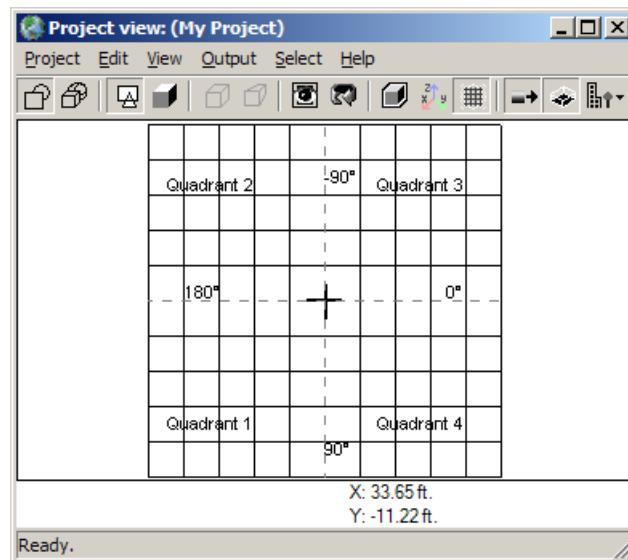

Figure 16.7: Display of the quadrants and their associated boundary angles
- *Quadrant* - The quadrant of the project that the set lies in. Figure 16.7 gives a visual representation of how the quadrants are arranged.